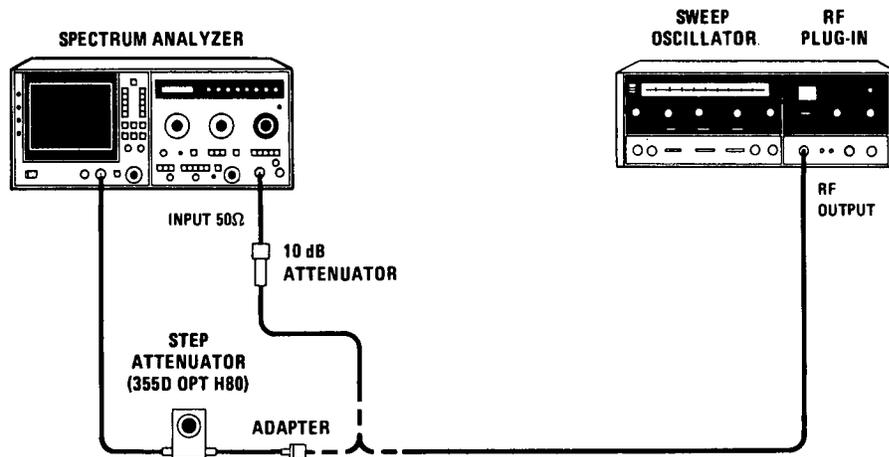

Figure 4-14. Input Attenuator Accuracy Test Setup
2. Connect equipment as shown in Figure 4-14 using CAL OUTPUT signal through 10-dB attenuator and 10-dB step attenuator. Set step attenuator to 0 dB. Adjust spectrum analyzer TUNING control to carrier signal on CRT.
8. Disconnect step attenuator from spectrum analyzer input and connect sweep oscillator output through 10 dB attenuator as shown in Figure 4-14.